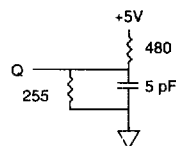

Fig. 2 OUTPUT LOAD EQUIVALENT
- t_{HZCE}, t_{HZOE} and t_{HZWE} are specified with C_L = 5 pF as in Fig. 2. Transition is measured ± 500mV typical from steady state voltage, allowing for actual tester RC time constant.